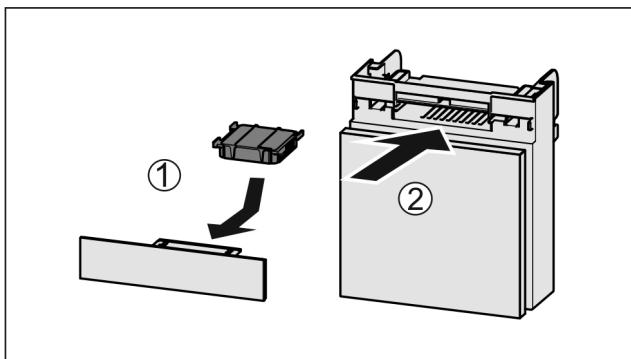

Fig. 163
- Insert the carbon filter as shown in the diagram Fig. 163 (1).
- Push the compartment in Fig. 163 (2).